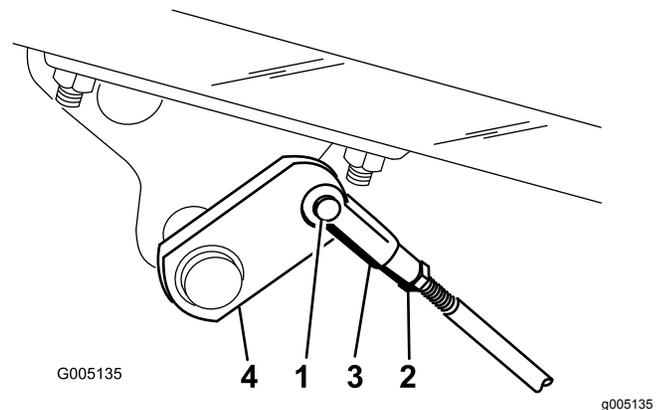

Figure 49
- A. Disconnect the brake rods by removing the cotter pin and clevis pin (Figure 49).
- B. Loosen the jam nut and adjust the clevis accordingly (Figure 49).
- C. Assemble the clevis to the brake shaft (Figure 49).